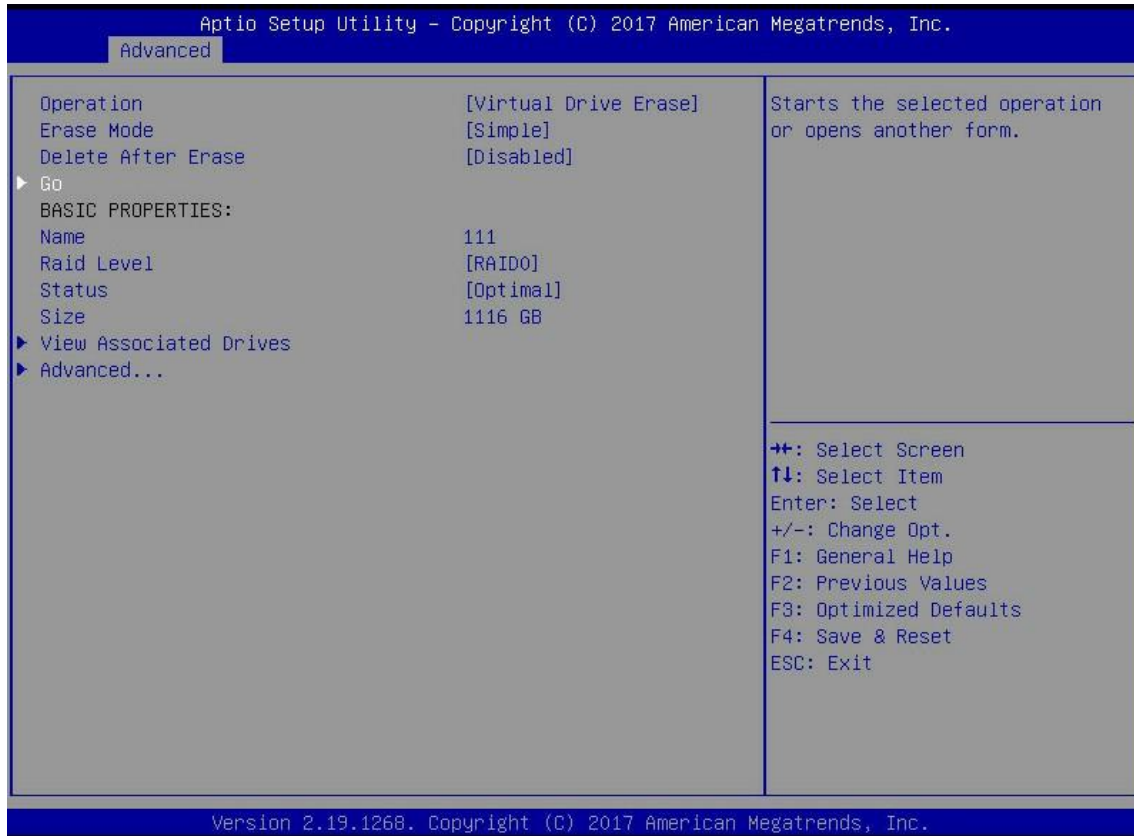

Figure 6-65
- e) Enter the interface shown in figure 6-65, select go and press enter.